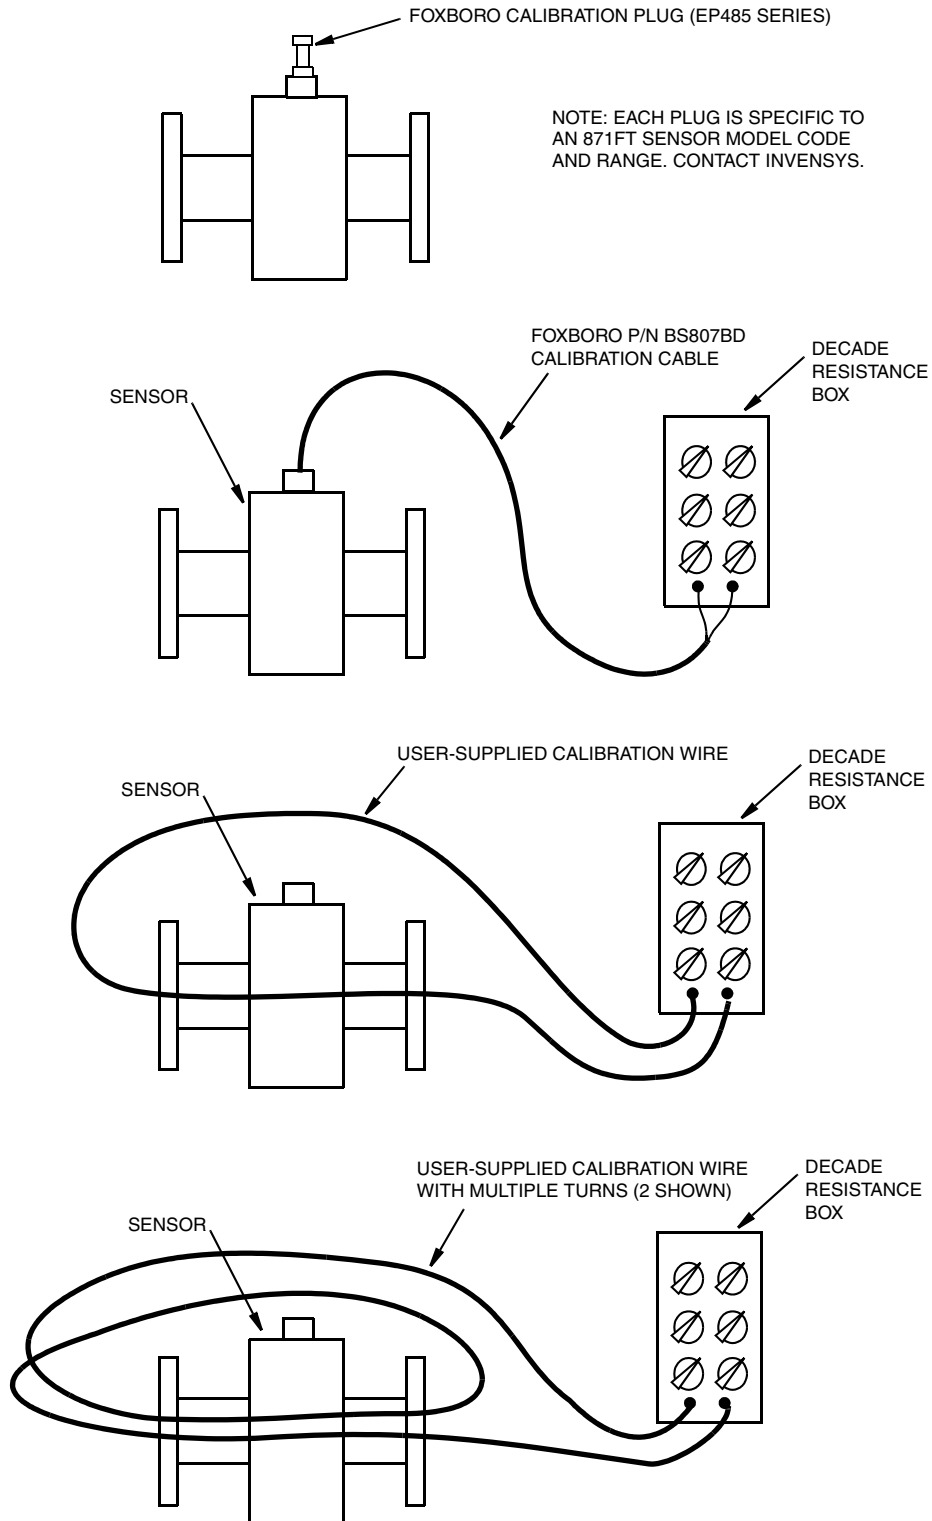

Figure 21. Flow-Through Sensor Cell Factor Calibration
The resistance value calculated in these formulas assume a Foxboro calibration cable assembly is used or a user supplied calibration wire is used with a single loop or turn through the sensor as shown in the third setup of Figure 21. When the value of the resistance calculated is very small (less than 10 ohms), the resistance of the wire could affect the accuracy of the calibration. To avoid this, use multiple loops of user-supplied calibration wire through the sensor as shown in the fourth setup of Figure 21. The resistance calculated is then multiplied by the square of the number of turns.
If using a Foxboro calibration cable assembly or user-supplied calibration wire, connect it to a decade resistance box as shown in Figure 21 and set to the resistance calculated above.
2. Remove the RTD connector from the sensor and connect a Foxboro calibration cable or loop a user-supplied calibration wire through the sensor (see Figure 21).
If the value of resistance necessary to reproduce the desired conductivity reading is smaller than 10 ohms, the resistance of the wire could affect accuracy. In such a situation, pass several turns of your user-supplied calibration wire through the sensor (see the fourth setup of Figure 21) and then connect to the decade resistance box. The resistance required to reproduce the conductivity noted in Step 3 is now larger by a factor of the square of the number of turns of wire through the sensor. Thus, if 10 turns of wire are used and the resistance on the decade box is 500 ohms, the resistance used in the cell factor equation in the next section is $500/10^2$ or 5 ohms.